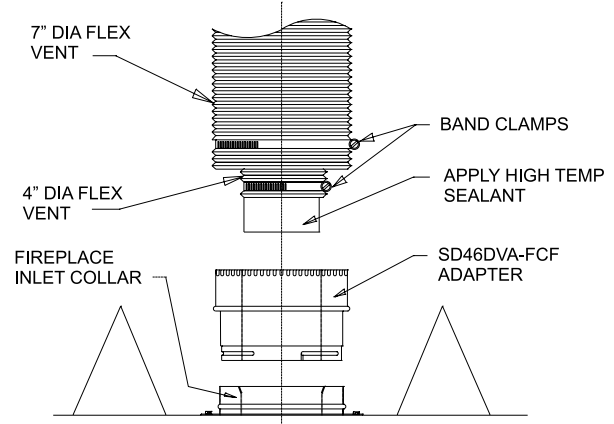

Figure 46
10. Apply sealant to the outside of the flue pipe adapter and connect to the flex flue pipe. Then insert the adapter into the fireplace flue. Secure flue adapter to the fireplace flue with a minimum of two screws provided. **See Figure 46.**